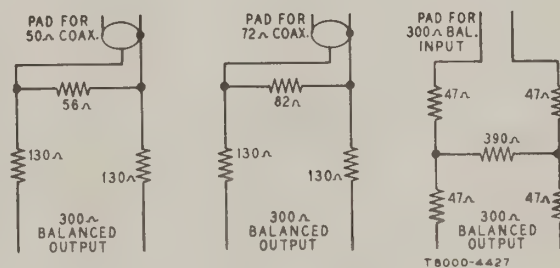

Figure 15 — Sweep Attenuator Pads
- SWEEP GENERATOR** Connect to antenna terminals through pad shown in Fig. 15.